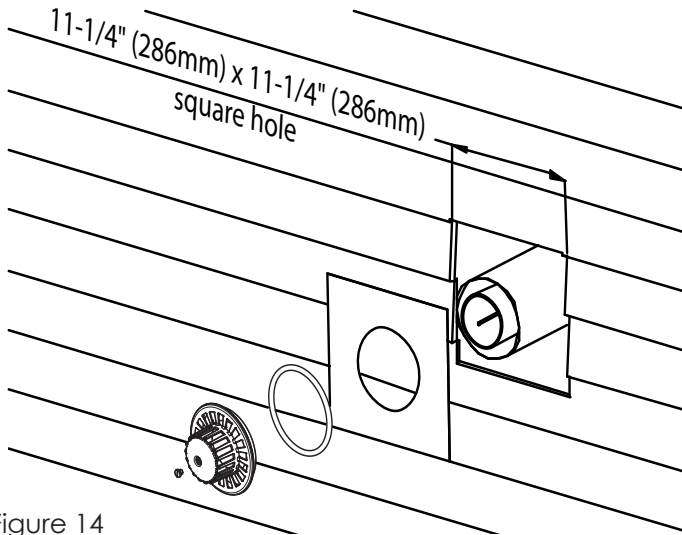
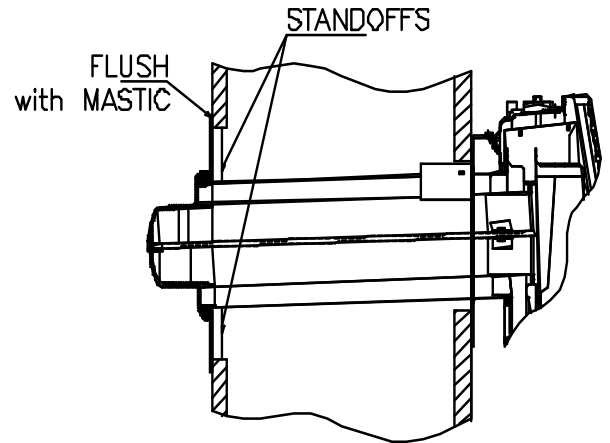

Figure 14
Figure 15
- (B) vent pipe
- (C) vent-air intake pipe
- (D) rod
- The hole at the outside of the wall must be a square of 11-1/4" (286 mm) X 11-1/4" (286 mm) (see figure 14).
- From the outside of the wall, screw the rod (D) slightly onto support located inside the appliance flue outlet.
- Wrap the vent-air intake pipe (C) with the provided insulation (i) (foil side out) and place the provided strip of tape (H) down the seam to secure it.
- Slide the vent pipe (B) and vent-air intake pipe (C) through the hole in the wall, and connect them to the appliance flue outlet and air intake, respectively.
- The outdoor mounting plate (F) and the silicon-rubber ring (G) should be installed between the vent cap (A) and the exterior wall. The outdoor mounting plate (F) must be positioned flush to the wall and with its standoffs inserted into the wall and sealed with a non-hardening mastic (silicone caulk). Position the outdoor mounting plate (F) so that the vent-air intake pipe (C) has a slight downward slope to the outside. The downward slope is necessary to prevent the entry of rainwater.
- Before attaching the vent cap (A) to the exterior wall, run a bead of non-hardening mastic (silicone caulk) around its outside edge, so as to make a seal between it and the outdoor mounting plate (F) (see figure 15).
- Slide the vent cap (A) into position and secure into place using the provided nut (E). Tighten nut (E) down until the vent cap (A) leans against the outdoor mounting plate (F) (see figures 14 and 15).